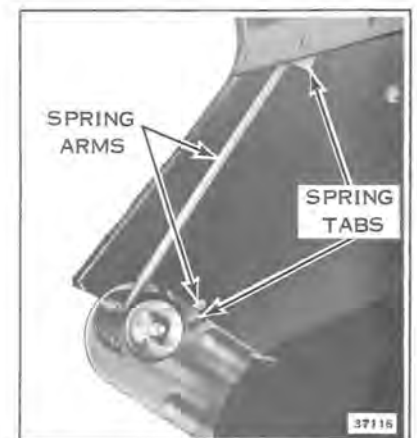

Figure 11-15
1. Install trucks and front and rear axle assemblies inside track and install to snowmobile chassis. The rear spring is loose when installing front and rear axles to bearing cups. Before adjusting track tension, place spring arms inside spring tabs. See Figure 11-15.